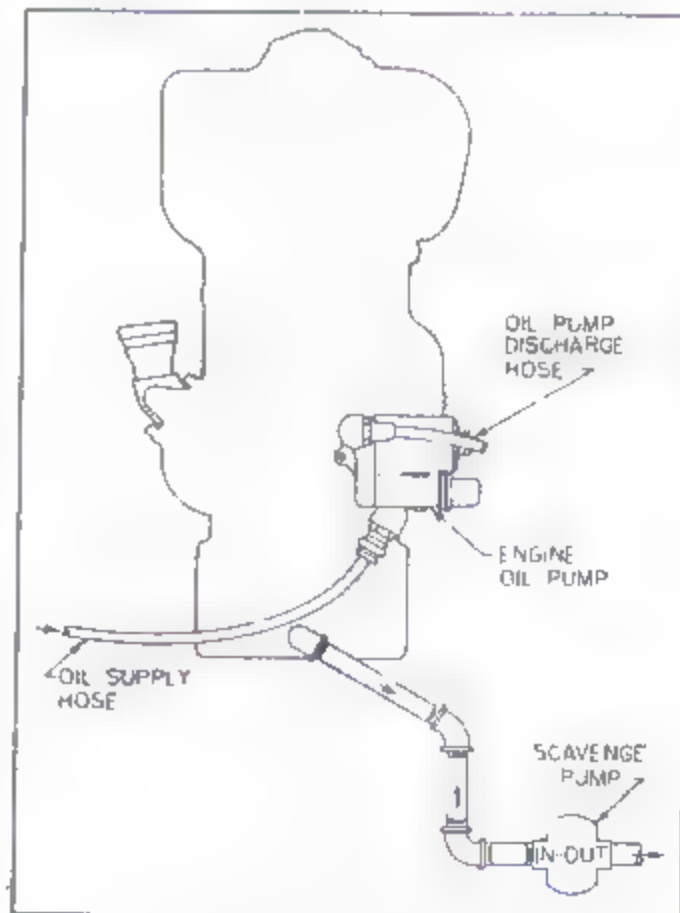

Figure 8-2. External Oil Supply Connections
- b. Connect test block oil supply and scavenge systems as shown in figure 8-2.